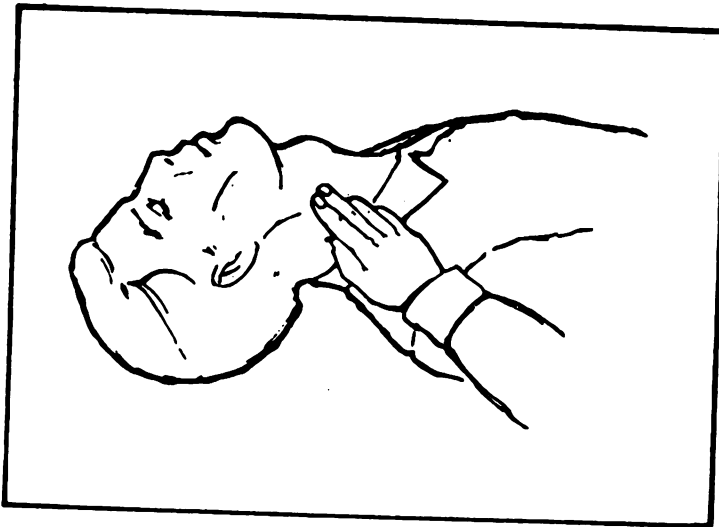

Figure 2
11. Immediately check the soldier's neck for a pulse. The pulse should be found in the soft area between the Adam's apple and the large muscle on the side of the neck (fig 2).